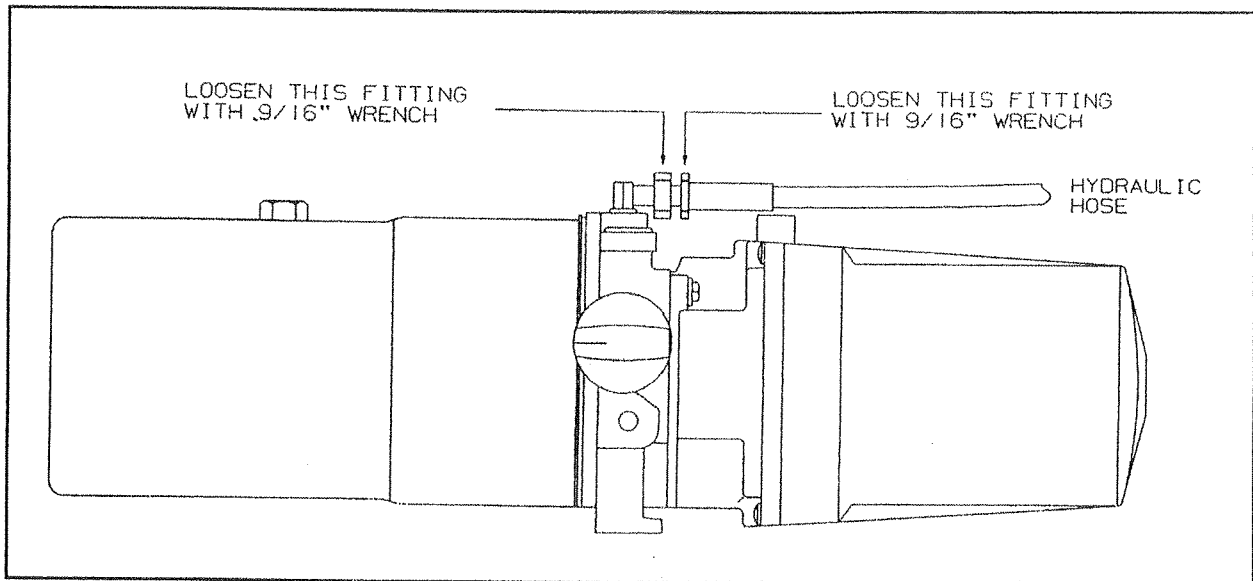

Figure 2
- Using two 9/16" wrenches, remove the hydraulic hose from the 90° fitting on the hydraulic pump assembly. See figure 2.